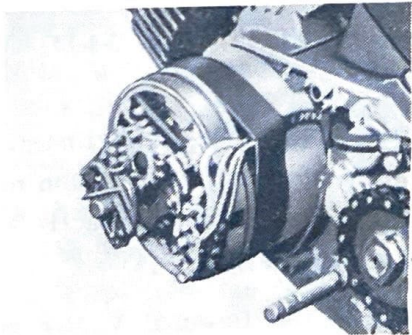

Fig. 5-4-17
- f) Then loosen the breaker plate holding screws, and turn the breaker plate. When the points open (the testing lamp lights up), set the screw. (Do not fully loosen the breaker plate holding screw, because the breaker plate tends to shift its position). Turning the breaker plate in the direction of engine rotation causes ignition timing to retard, and turning it in the opposite direction advances ignition timing. (Figs. 5-4-17 and 18)